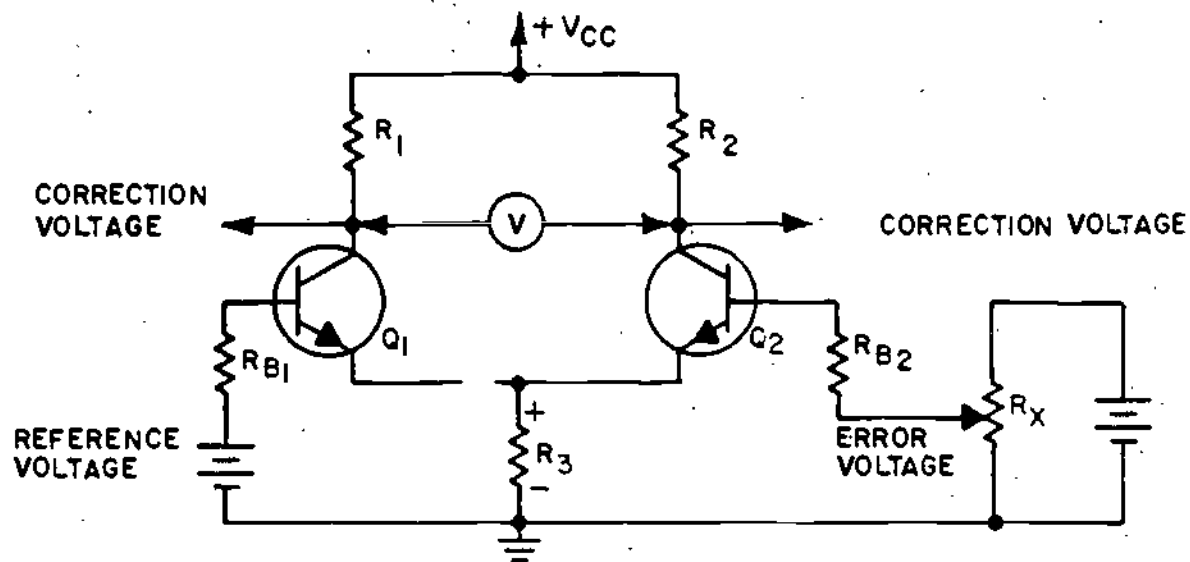

FIGURE 21
- (29.) THIS IS A TEST FRAME. STUDY THE SCHEMATIC IN FIGURE 21 IN ORDER TO ANSWER THE TEST QUESTIONS. AFTER YOU ANSWER THE QUESTIONS COMPARE YOUR ANSWERS WITH THE CORRECT ANSWERS GIVEN ON THE TOP OF THE PAGE FOLLOWING THE QUESTIONS.